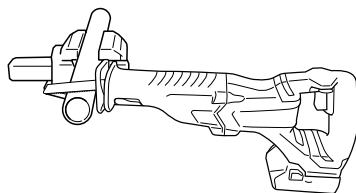

Fig. 27
(1) Fasten a workpiece firmly before operation. (Fig. 27)